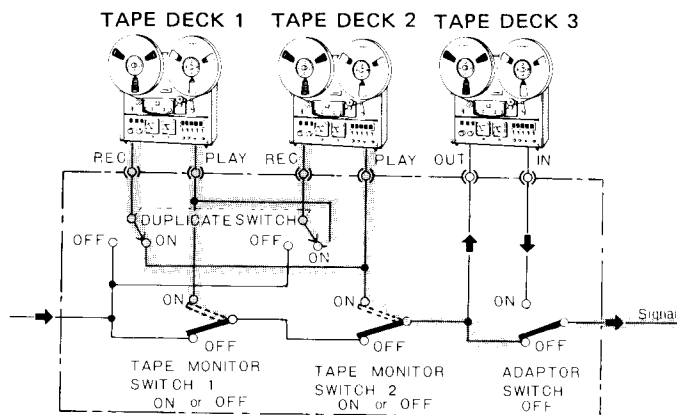

Fig. 24
1. Connect the two tape decks as shown in Fig. 24.
4. When recording with tape deck 1, TAPE MONITOR switch 1 should be switched ON to monitor the recorded sound, and when recording with deck 2, TAPE MONITOR switch 2 should be switched ON for monitoring (refer again to Fig. 24).